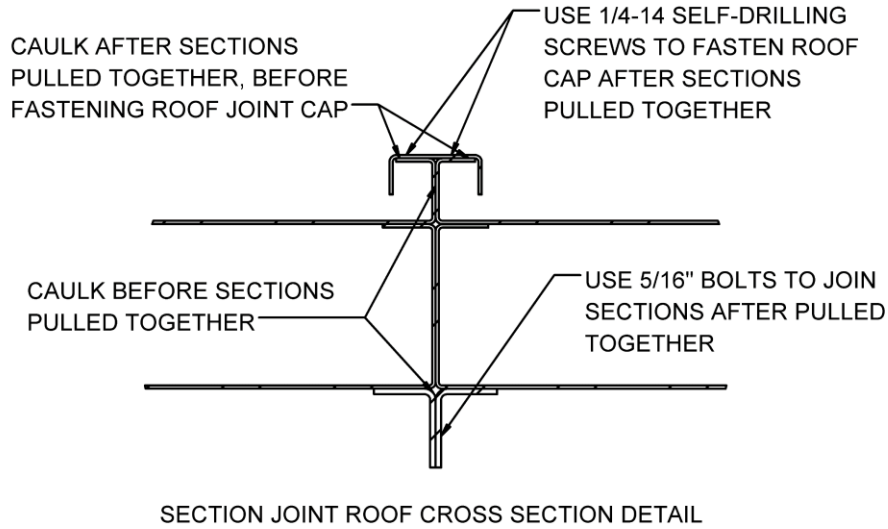

Figure 4.
2.6.2. After pulling the unit sections together use provided joint kit to caulk where indicated in Figures 4, 5 and 6. Sections to be fastened together with the indicated bolts and joint caps to be installed over the roof and wall joint exterior as indicated.